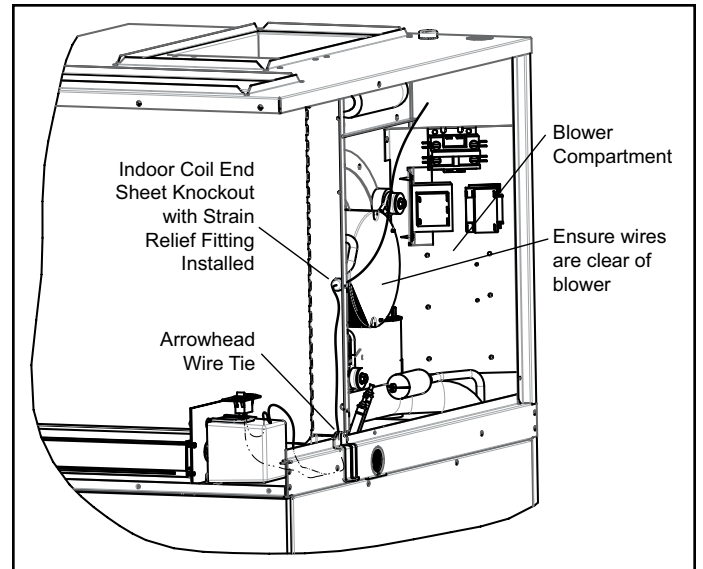

Figure 5. Route Wiring
7. Remove Knockout from Indoor Coil End Sheet using a flat blade screwdriver (see Figure 5).
- b. Connect the terminated lead ends of the Wire Harness to Damper Motor and ON/OFF Switch (see Figure 5).
- d. Install provided Arrowhead Wire Tie and Strain Relief Fitting and secure wiring (see Figure 5).